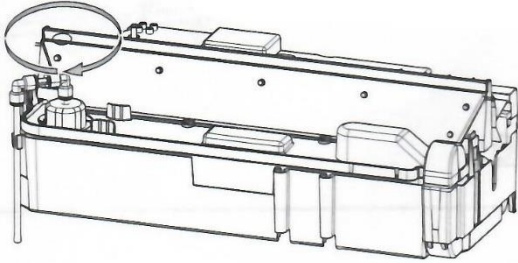

Fig 29
3. Disconnect the 'fill cap' by turning it clockwise until it clicks out of the locked position (Fig. 29). Lift it out and rotate the pipe and connections so that the fill cap is placed out of the way of the sump.